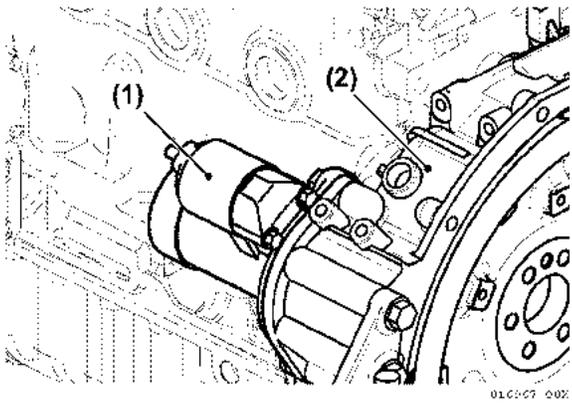

Figure 5-188
55. Install the starting motor in the flywheel housing (Figure 5-188).